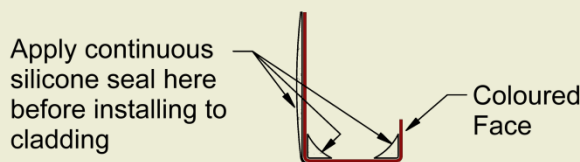

Figure 10.3 Jamb Flashing
- Apply continuous silicone seal to Jamb flashing and apply to opening. See **Figure 10.3**.